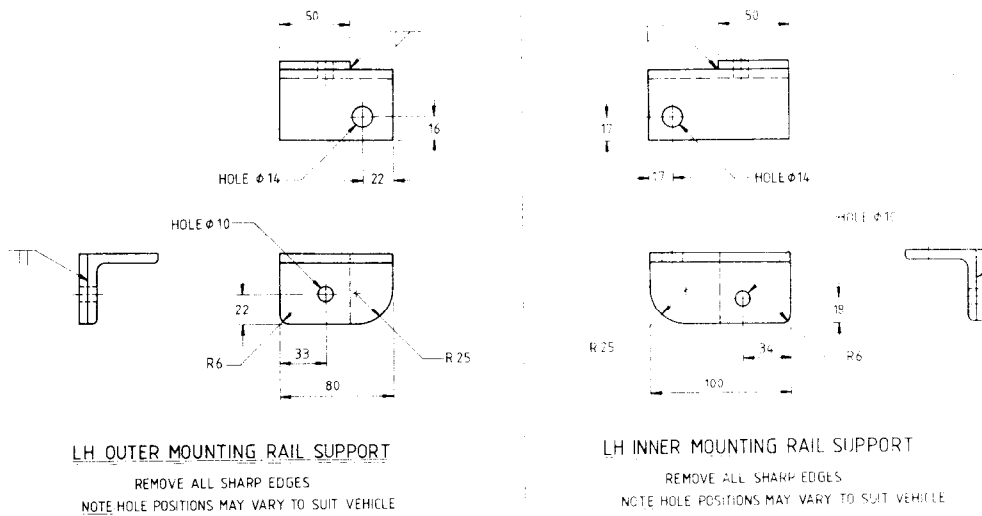

FIG 3 - SUPPORT BRACKETS
- g. Manufacture and fit (using original hardware) two support brackets using items 5 and 6 from Table 1, as shown in Figs 3 and 4.